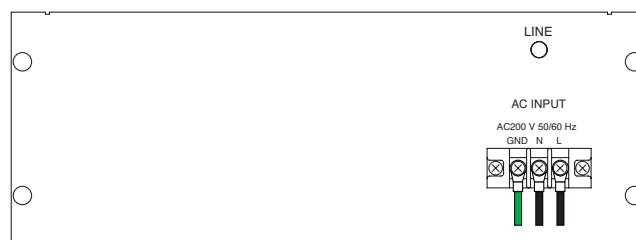

Fig. 3-10 Connecting the power cable
- 3 Connect the power cable to the AC INPUT terminal block as shown in Figure 3-10.